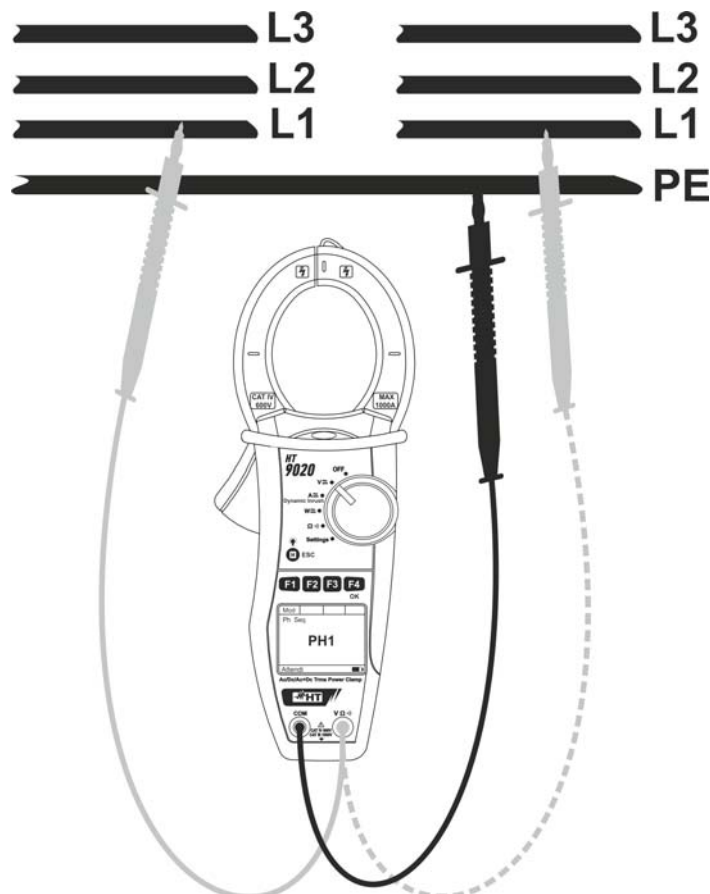

Fig. 8: Verification of phase conformity
2. Connect the red cable to the input lead **VΩ $\rightarrow$** and the black cable to the input lead **COM** then position the leads respectively to the L1 phase of the first system and the ground reference PE of the circuit under test (see Fig. 8)